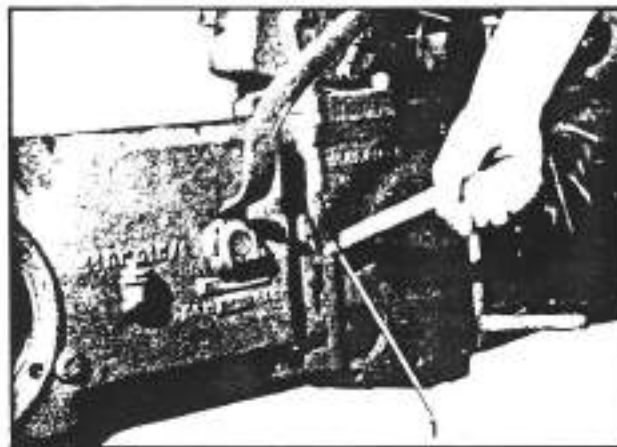
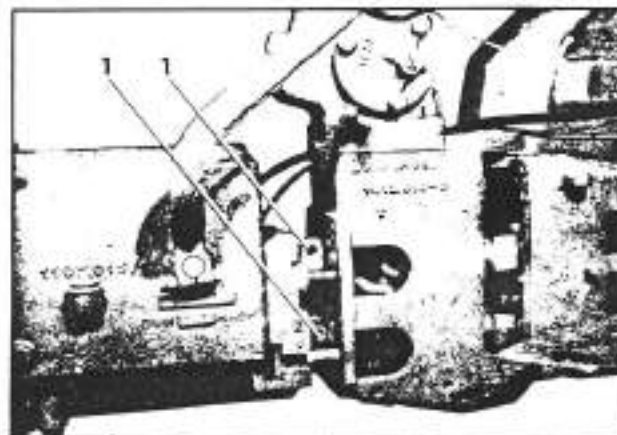

Fig. 3-26. Loosening of the lock nuts of the articulated joint
Fig. 3-27. Removal of the bolts from the articulated joint
- Only loosen the bolts holding the gear box to the articulated joint (1; fig. 3-26); carefully separate the gear box and the articulated joint and then remove the socket-head bolts (1; fig. 3-27). Then take out the bolts (1; fig. 3-26) and detach the complete
Pay particular attention that the springs and poppet balls located in the holes indicated in figure 3-26, immediately over the respective rods are not lost.